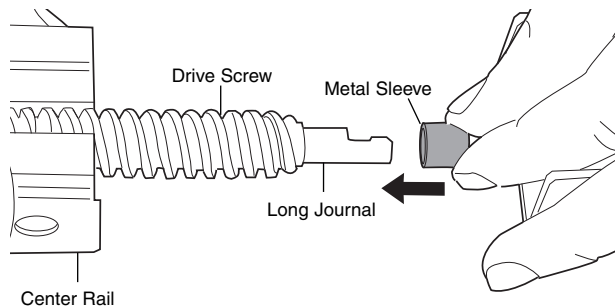

Figure 5
7. Slide the center rail so that the center rail and rail brace holes are aligned (Figure 5). Secure with bolts.